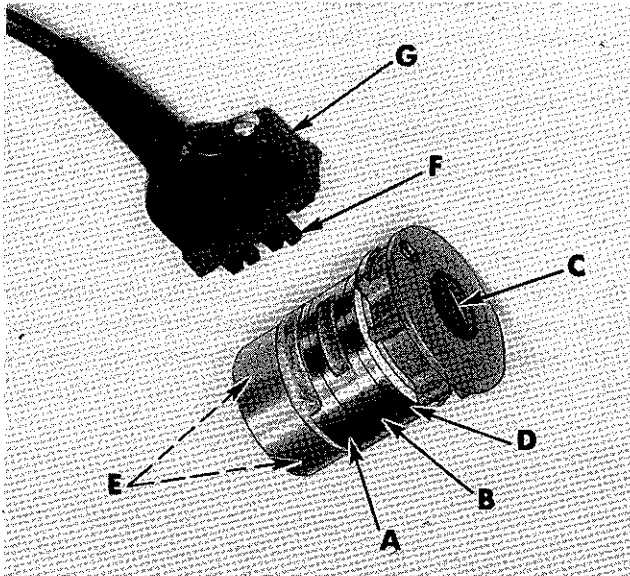
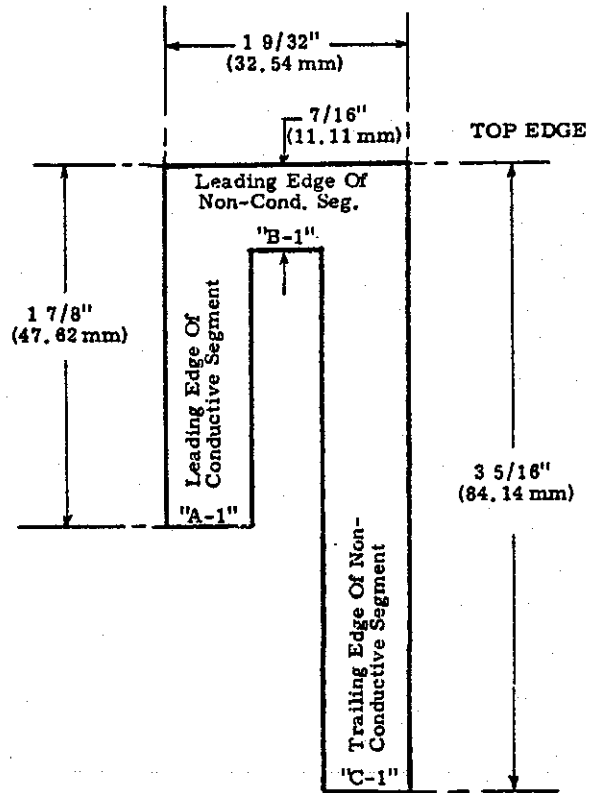

Fig. 39
Fig. 40
The synchronizer is composed of three slip rings and four carbon brushes. The hub, band (A, Fig. 39) is fixed on the synchronizer and controls the "cutting mechanism". Band (B) is adjustable by means of screw (C) and controls the "needle-up" position. Band (D) is also adjustable by means of screw (C) and controls the "needle-down" position.
Assemble the brush holder and bracket to the machine as shown in Fig. 1B and the synchronizer to the handwheel adapter. Do not tighten screws (E, Fig. 39) in the synchronizer hub, band (A) at this time. Loosen screw (C) so that bands (B and D) may be moved freely.
Figure 40 is provided to show dimensional relationships for setting the bands of the synchronizer. A plastic rule may be used for making these settings as compared to the sketch in Fig. 40. Visualize from the operator's position while seated at the machine, placing the top edge of sketch (Fig. 40) over the top of the bands until contact is made FLUSH with the edge of the brushes (NOT THE BRUSH HOLDER) and proceed as follows:
Rotate hub, band (A, Fig. 39) of the synchronizer in the operating direction until the LEADING EDGE of its CONDUCTING segment aligns with ("A-1", Fig. 40) 1 7/8 inches (47.62 mm). Secure the synchronizer to the handwheel adapter in this position by screws (E).
Rotate band (B, Fig. 39) in the operating direction until the LEADING EDGE of its NON-CONDUCTING segment aligns with ("B-1", Fig. 40) 7/16 inch (11.11 mm). WHILE HOLDING BAND (B) IN THIS POSITION, rotate band (D) in the operating direction until the TRAILING EDGE of its NON-CONDUCTING segment aligns with ("C-1", Fig. 40) 3 5/16 inches (84.14 mm).
With the power off, remove the throat plate and turn the handwheel in the operating direction until the needle has reached its lowest position; continue to turn the handwheel in the operating direction until the hook point has passed the needle by approximately 5/64 inch (1.98 mm). At this point, the NON-CONDUCTING segment of band (D, Fig. 39) should be on brush (F).